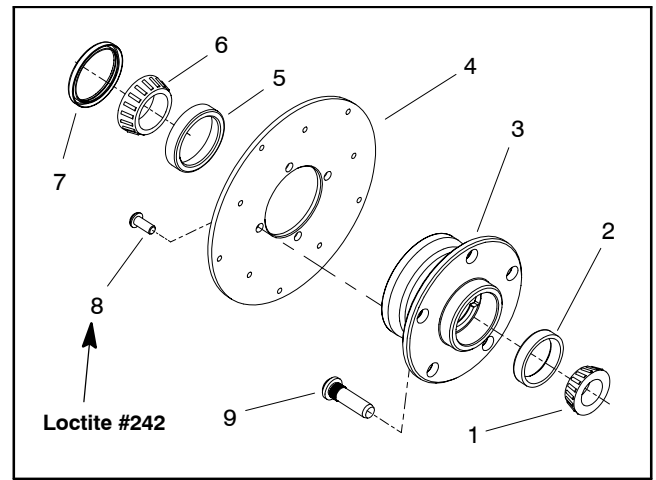

Figure 7
8. Disassemble the wheel hub (Fig. 7):
3. Assemble wheel hub (Fig. 7):